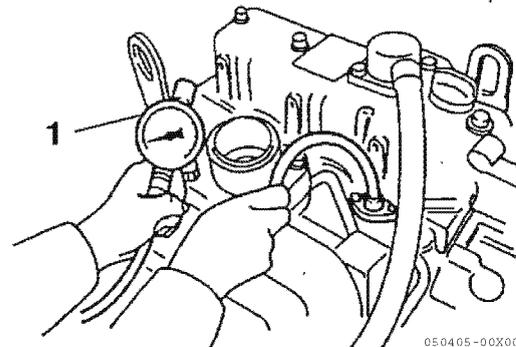

Figure 15-2
13. Crank the engine until the compression gauge reading is stabilized, and measure the compression pressure. (**Figure 15-2**)